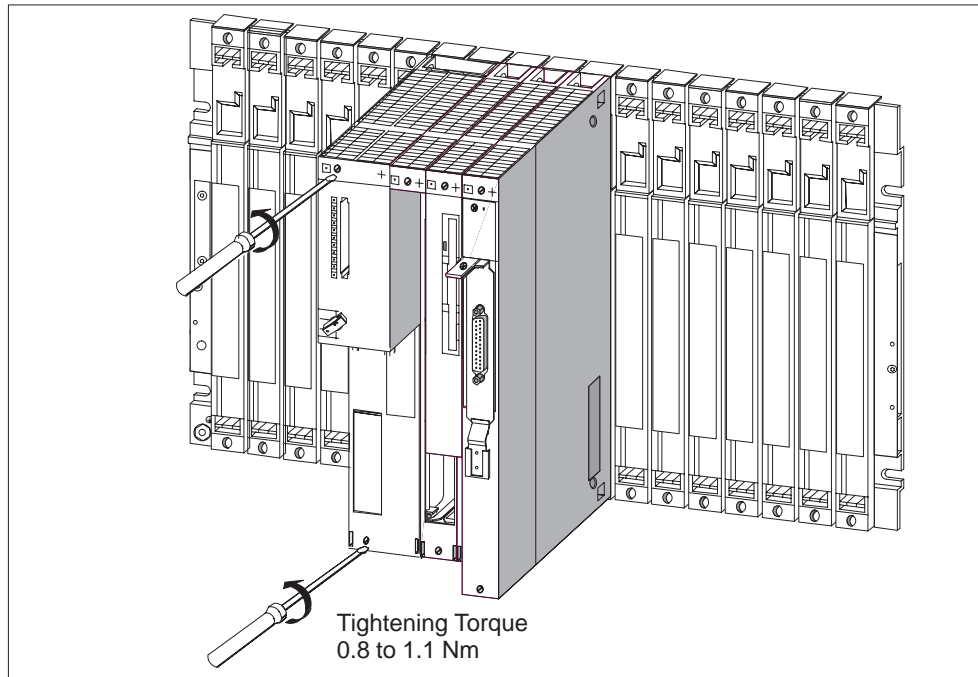

Figure 3-3 Unscrewing the Modules
6. Undo the fixing screws on the module or module group. Figure 3-3 shows the position of the fixing screws on a module.